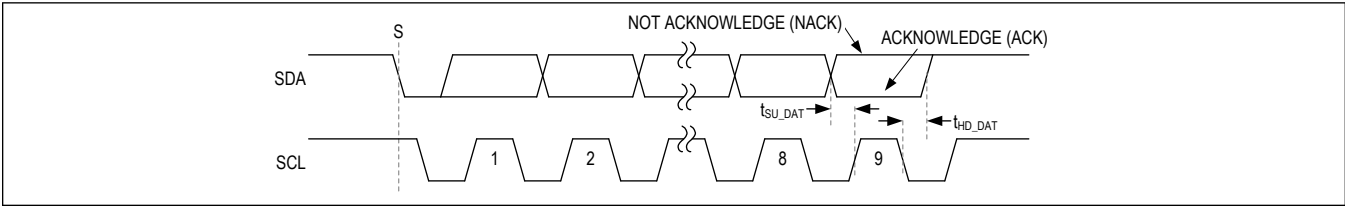

Figure 14. Acknowledge Bit
Both the I2C bus master and this device generate acknowledge bits when receiving data. The acknowledge bit is the last bit of each nine-bit data packet. To generate an acknowledge (A), the receiving device must pull SDA low before the rising edge of the acknowledge-related clock pulse (ninth pulse) and keep it low during the high period of the clock pulse. See Figure 14. To generate a not acknowledge (nA), the receiving device allows SDA to be pulled high before the rising edge of the acknowledge-related clock pulse and leaves it high during the high period of the clock pulse.